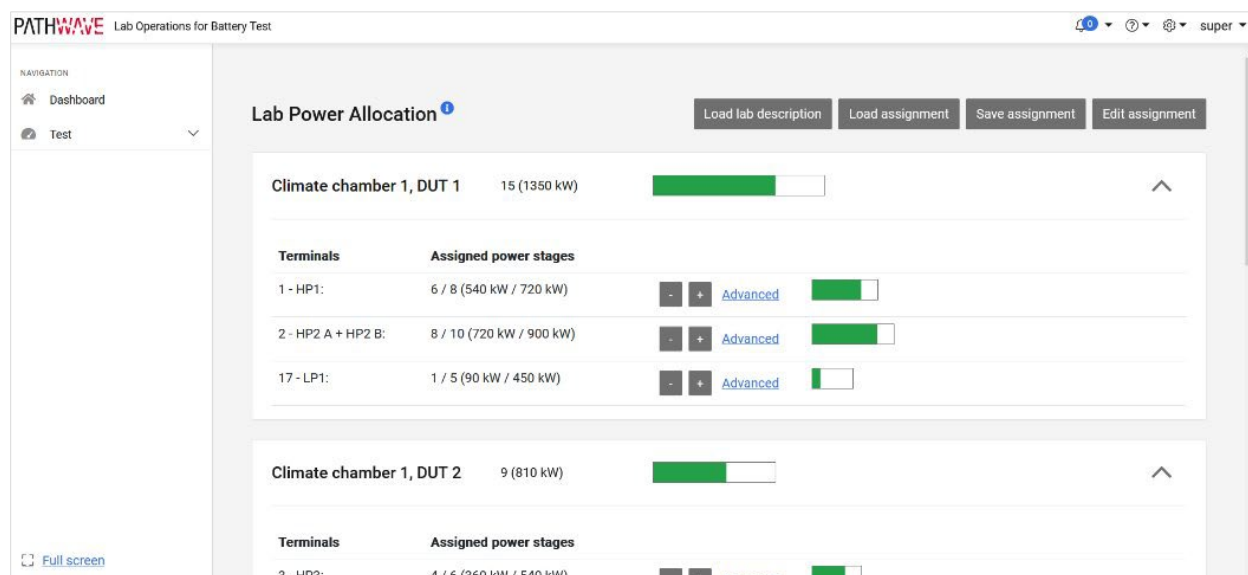

Figure 15. Manual power allocation for more flexibility
- Influence the power allocation to test objects within the climate chamber actively: Figure 15 shows climate chambers that are available in the laboratory, and the total number of output stages and power currently assigned to each climate chamber.